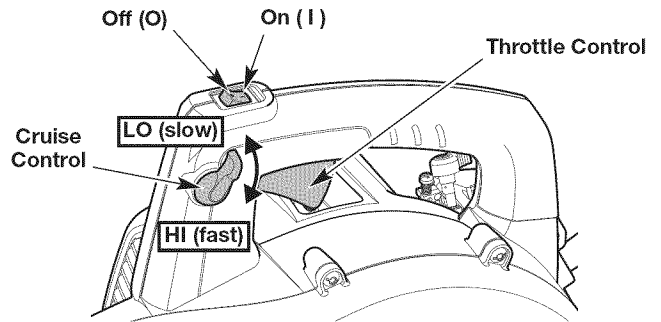

Fig. 3
NOTE: There is no need to turn the unit on. The On/Off switch is in the ON (I) position at all times (Fig. 3).
4. Move the cruise control to the **LO (slow)** position (Fig. 3).
NOTE: Keep the cruise control in the **LO (slow)** position and **DO NOT** squeeze the throttle control until step 9 (Fig. 3).
8. **DO NOT** squeeze the throttle control. Idle the engine for 5 to 10 seconds. If the unit stops during this time: Squeeze and hold the throttle control or move the cruise control to the **HI (fast)** position (Fig. 3). Pull the starter rope with a controlled and steady motion until the unit starts.
9. Squeeze and hold the throttle control or move the cruise control to the **HI (fast)** position (Fig. 3). Allow the engine to warm up for 30 to 60 seconds.
2. Press and hold the On/Off switch in the **OFF (O)** position until the engine comes to a complete stop (Fig. 3).
- Use the cruise control to make continuous operation easier (Fig. 3).